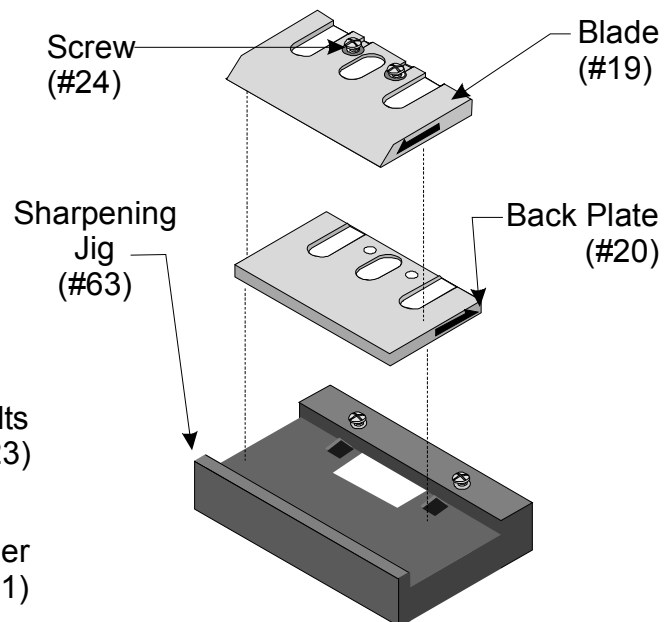

Figure 5 — Setting the Blades
Step 1: Loosely attach the BACK PLATE (#20) to the BLADE SET JIG (#62) as shown in Figure 5.